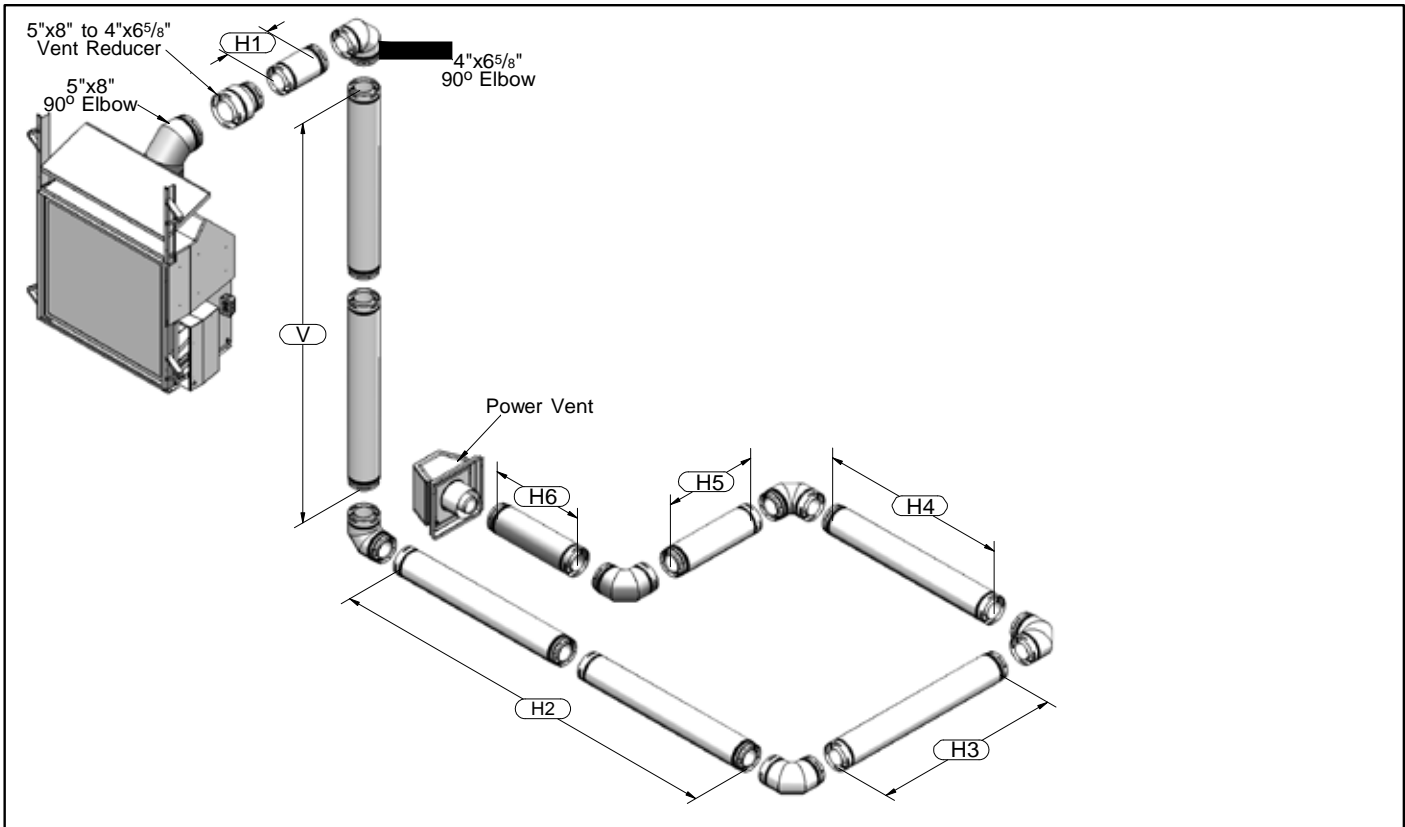

Figure 2: Below-grade installation with maximum number of elbows.
- Maximum vent run is 100 feet (30.5m) ($H_1 + V + H_2 + H_3 + H_4 + H_5 + H_6$), refer to Figure 2.
- Maximum below-grade installation is 8 feet (2.4m) (V).